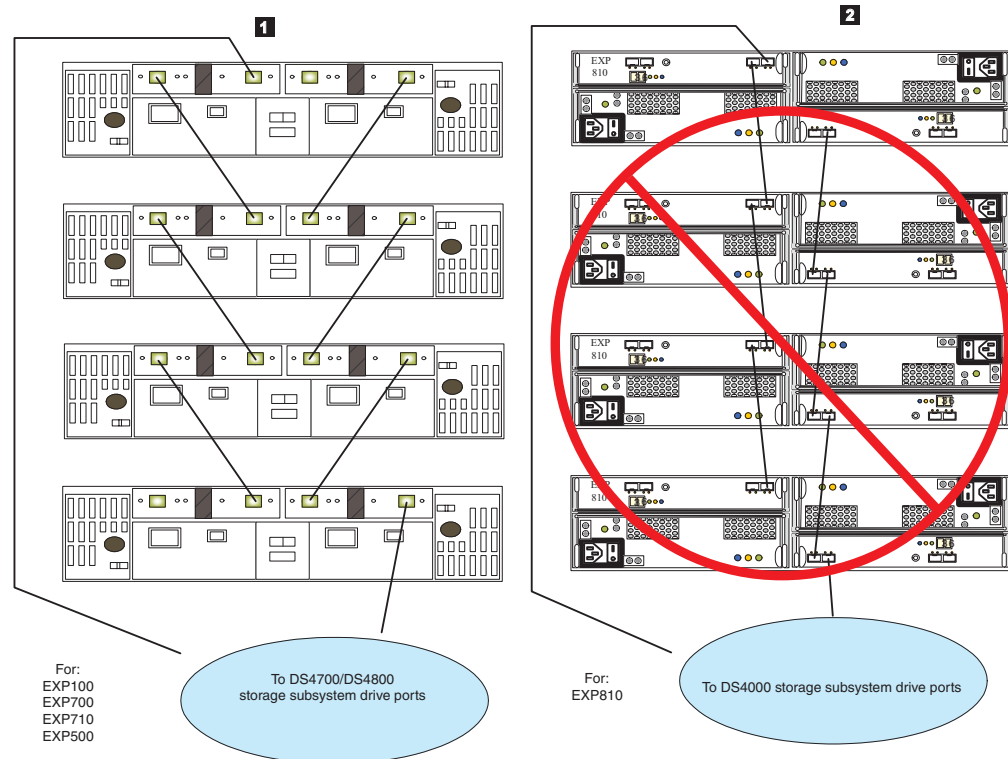

Figure 38. Alternative cable loop scheme for connecting storage devices
- 1 Best practice cabling for EXP100, EXP500, EXP700, and EXP710 storage enclosures with DS4000 storage subsystems except when the EXP100 storage enclosure is the first storage enclosure that is directly connected to a DS4700 or DS4800 storage subsystem controller A drive port. See Figure 38 on page 105 for cabling best practices that apply to this specific case.